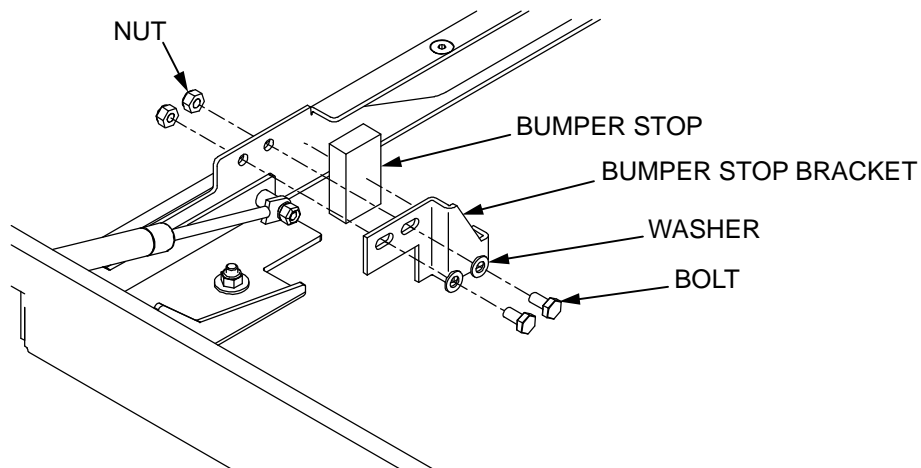

FIGURE 4-4: BUMPER STOP REMOVAL
- d. Refer to **Figure 4-4**. Remove and retain two bolts, two washers and two nuts from bumper stop bracket then detach bumper stop.